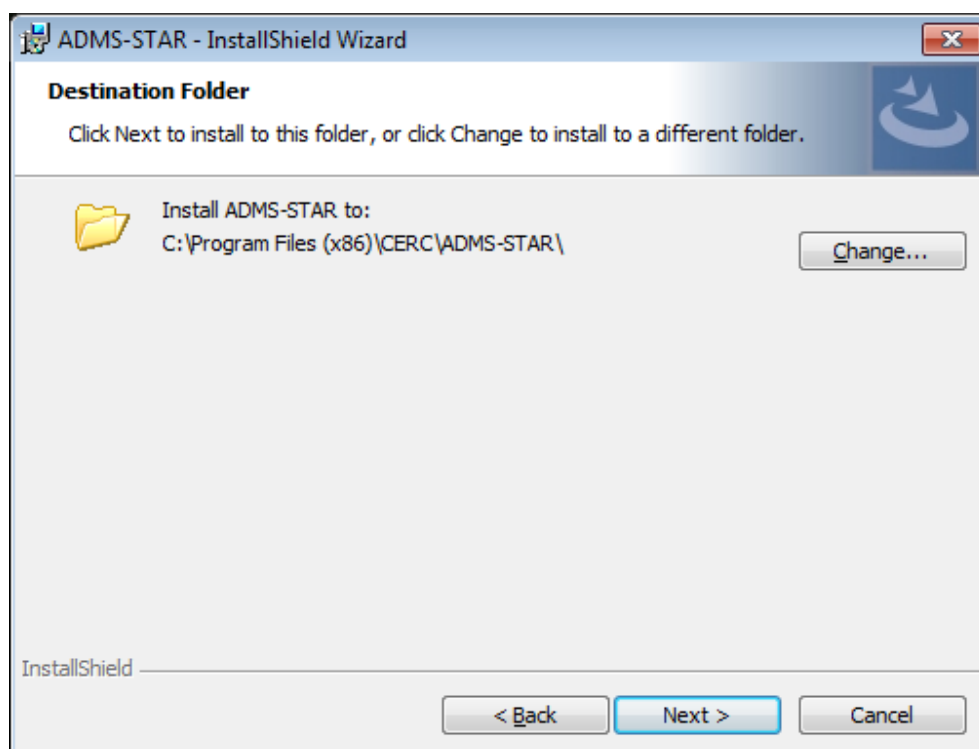

Figure 2.3 - The ADMS-STAR Destination Folder screen
Step 4 Enter your username and organisation in the designated places. Click **Next>** to go to the **Destination Folder** screen (**Figure 2.3**).
- Step 5** You should select a drive with at least 200MB of available disk for the installation. The default installation directory is *C:\Program Files\CERC\ADMS-STAR*, as shown in **Figure 2.3**. If required, use **Change...** to select your own installation directory. Click **OK** to return to the **Destination Folder** screen.